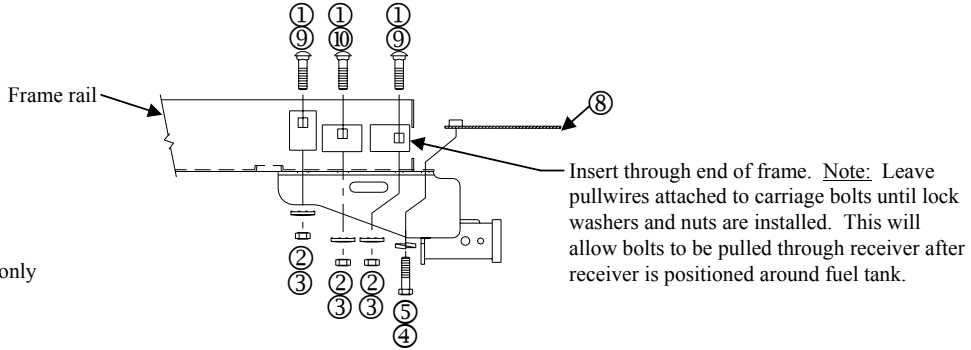

Figure 3
- A. Remove tow hook and tow hook bracket; Return component to vehicle owner. Mount driver's side of receiver using M12 bolts as shown in Figure 1. Mount passenger side of receiver as shown in Figure 3.
- Option D** – See Figure 3
- A. Using pullwire feed 1/4 X 1-1/2 X 2 blocks (Item 9 & 10) and carriage bolts through end of frame and into existing holes. Raise hitch into position and attach per Figure 3.